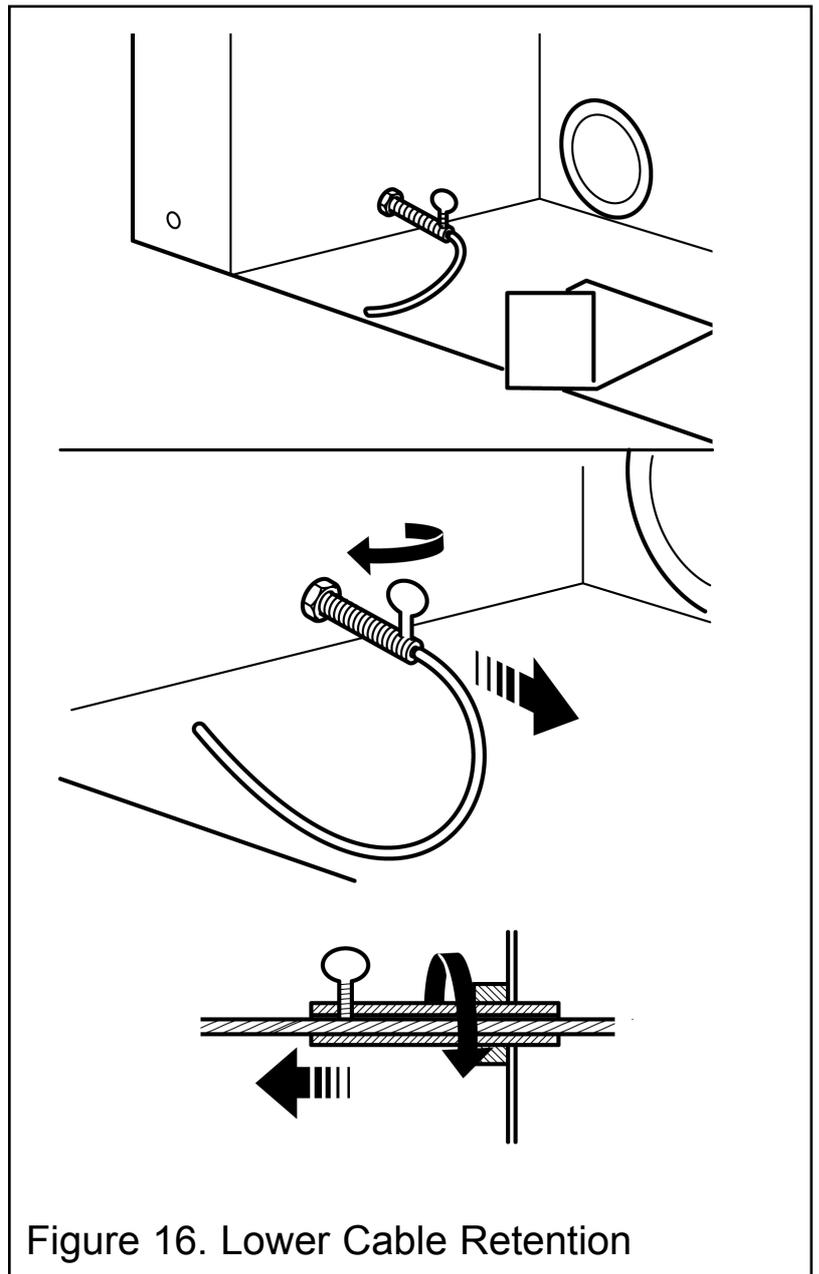

Figure 16. Lower Cable Retention
9. Pull each cable taut. Push the cable retainers hard up against the back panel. The end of the cable adjuster will pass into the hole. Tighten the screws in the retainers so that they clamp the cables in position. Apply tension to the cables by turning the hexagonal adjusters by hand. See figure 16.